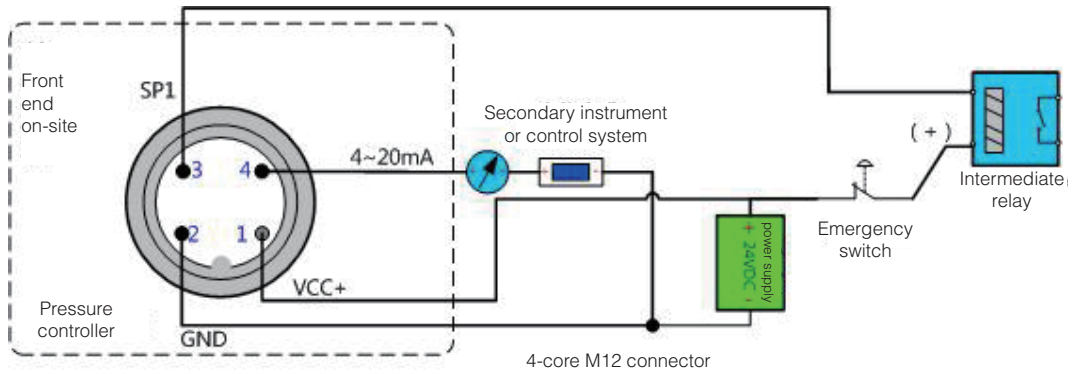

Figure 5-5 1 channel NPN+4 ~ 20mA analog signal output (4-wire system)
a) b) NPN the wiring diagram is shown in Figure 5-5,5-6,5-7